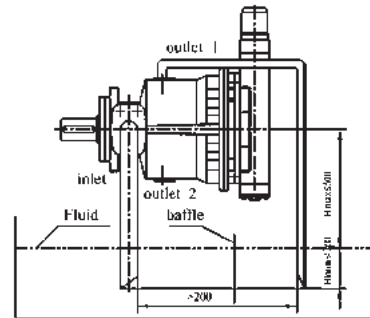

Fig. 4
b) If the minimum fluid level is equal to or below the top of the pump, pipe ports "outlet 1" and possibly "inlet" as Fig. 4.; close port "outlet 2".
a) When mounting above the reservoir, see Fig. 4